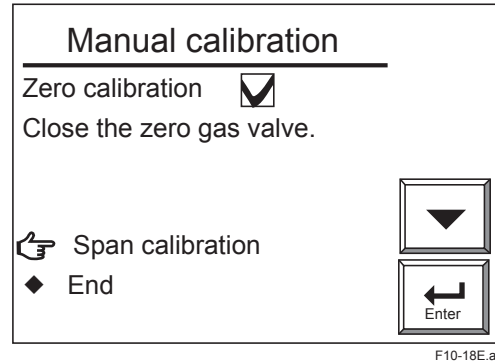

Figure 10.18 Zero gas Calibration Complete (in Manual Calibration Display)
- (1) Use the needle of the zero gas valve “CHECK GAS “ to puncture a hole in the gas cylinder installed as described in Subsection 10.7.2. Fully clockwise turn the valve regulator by hand.
- (2) Next, adjust the flow rate to  $600 \pm 60$  ml/min (the flow check ball stops floating on the green line when the valve is slowly opened). Turn the regulator of the zero gas valves back slowly counterclockwise. At that time, the flow rate also decreases as the inner pressure of the gas cylinder decreases. Therefore, monitor the flow check and, when the ball’s position changes greatly, readjust the valve.
- (3) Select “Valve opened” (to start calibration) from the Manual calibration display. Check the Trend graph display to see that the measured value is stabilized. Then press the [Enter] key. The Manual calibration display shown in Figure 10.18 appears. Then stop the zero gas flow immediately. Turn the zero gas valve regulator fully clockwise. If this valve regulator is not properly adjusted, the needle valve will not close completely and a cylinder gas may leak.